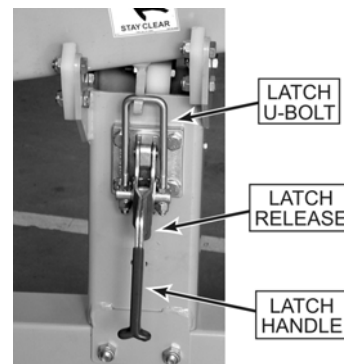

Figure 3-4. Boom Travel Latch
- ❑ On both the upper and lower booms, pull the latch release on the boom travel latch, raise the latch handle and swing the latch U-bolt down. Refer to figure 3-4.